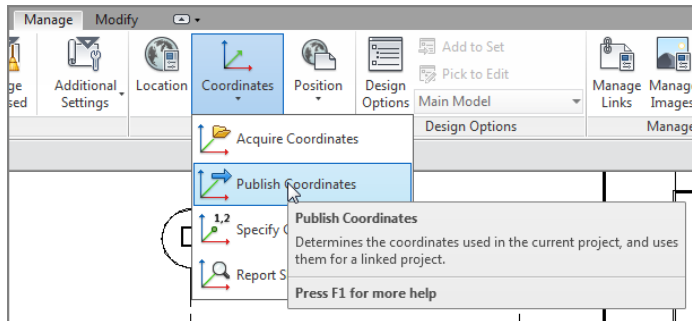

FIGURE 20.21: Publishing the coordinates
1. On the Project Location panel of the Manage tab, click Coordinates > Publish Coordinates, as shown in Figure 20.21.